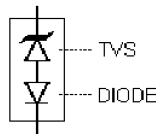
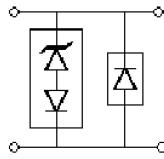
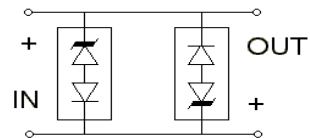

FIGURE 4
FIGURE 5
FIGURE 6
The TVS low capacitance device configuration is shown in Figure 4. As a further option for unidirectional applications, an additional low capacitance rectifier diode may be used in parallel in the same polarity direction as the TVS as shown in Figure 5. In applications where random high voltage transients occur, this will prevent reverse transients from damaging the internal low capacitance rectifier diode and also provide a low voltage conducting direction. The added rectifier diode should be of similar low capacitance and also have a higher reverse voltage rating than the TVS clamping voltage V_C . The Microsemi recommended rectifier part number for the application in Figure 5 is the "SMBJLCR80" or "SMBGLCR80" depending on the terminal configuration desired. If using two (2) low capacitance TVS devices in anti-parallel for bidirectional applications, this added protective feature for both directions (including the reverse of each rectifier diode) is inherently provided in Figure 6. The unidirectional and bidirectional configurations in Figure 5 and 6 will both result in twice the capacitance of Figure 4.